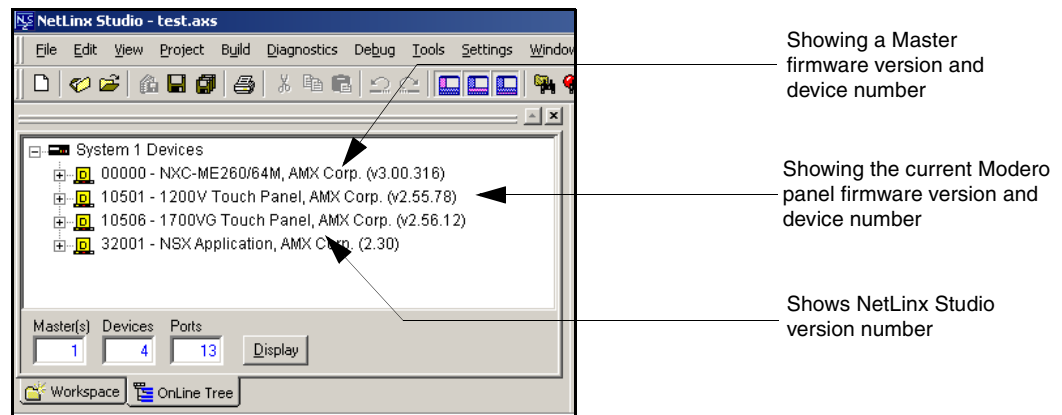

FIG. 76 NetLinx Workspace window (showing connected Modero panel)
- After the Communication Verification dialog window verifies active communication between the PC and the Master, verify the panel appears in the **OnLine Tree** tab of the Workspace window (FIG. 76). *The default Modero panel value is 10001.*